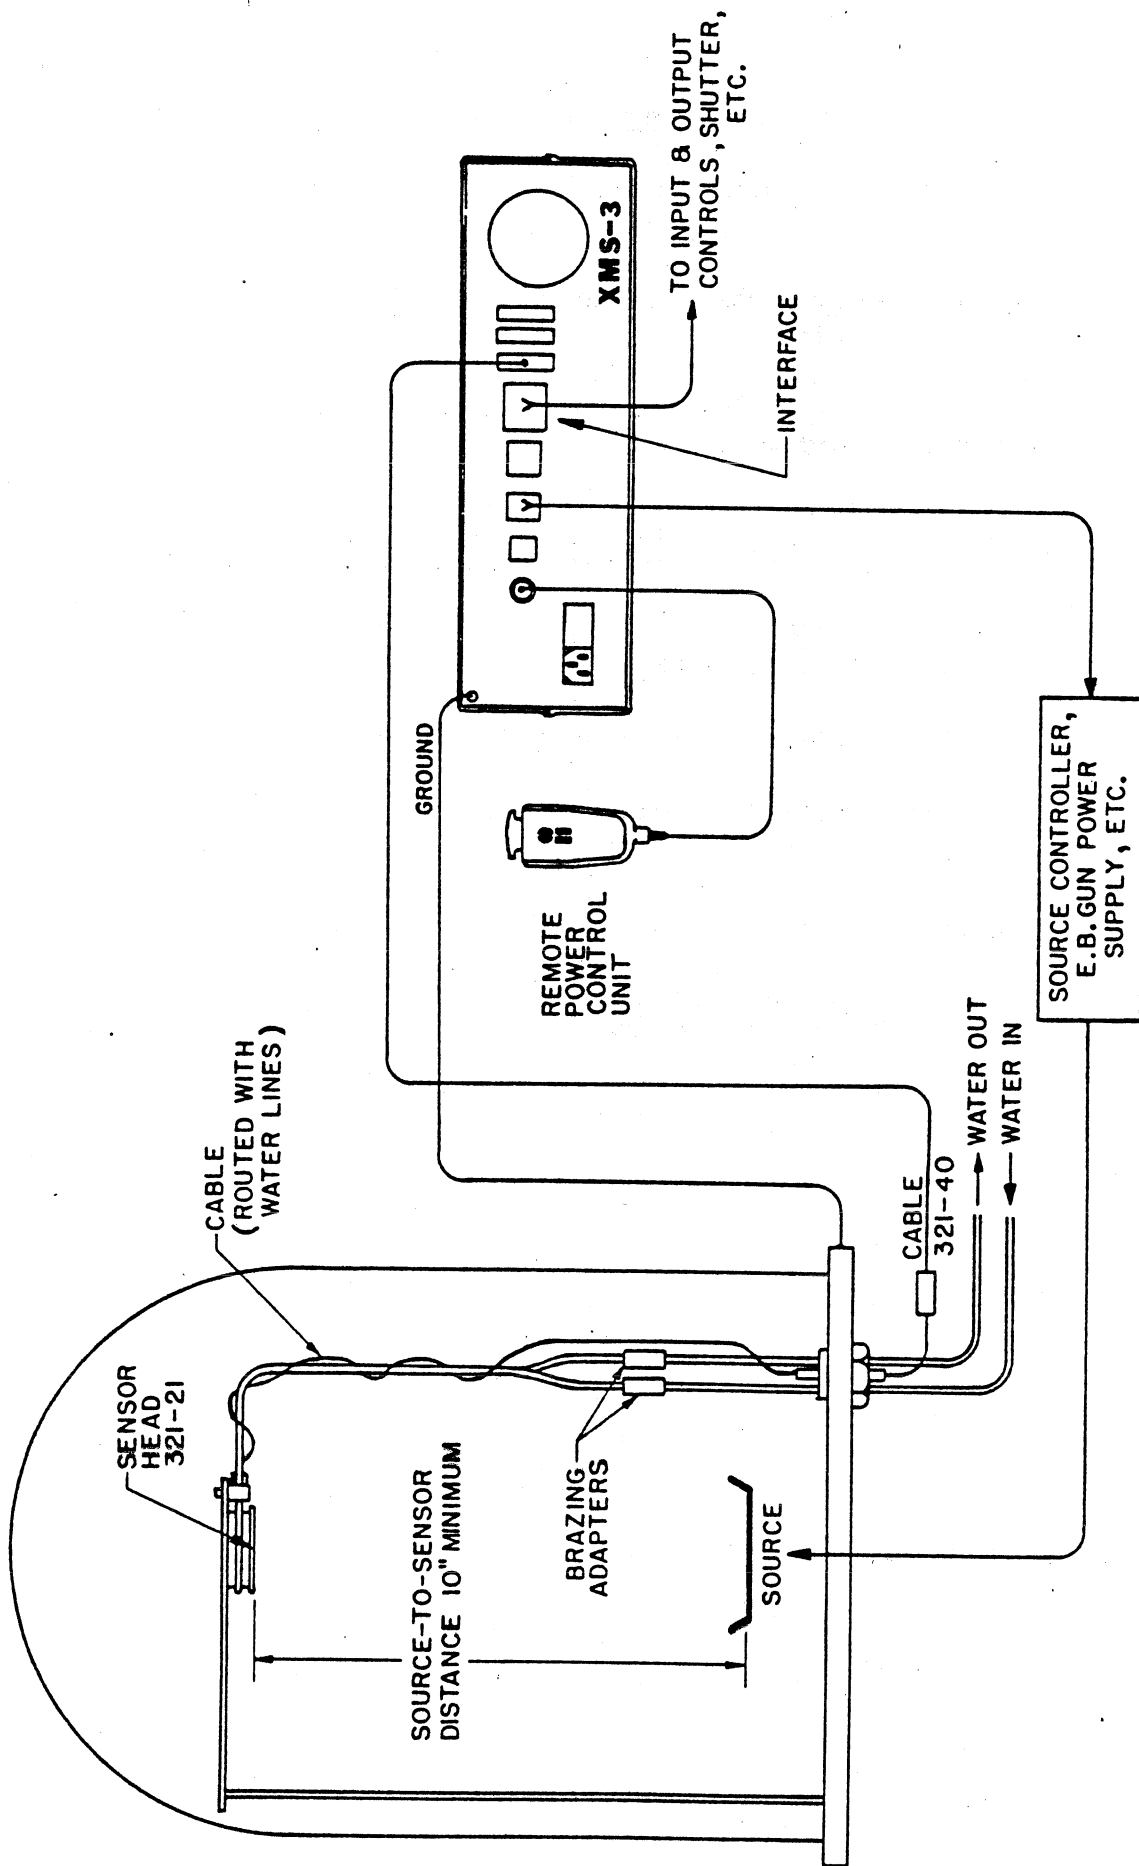

Figure 4-1 Typical Installation
4.1 Installation in Coating System (Figure 4-1)